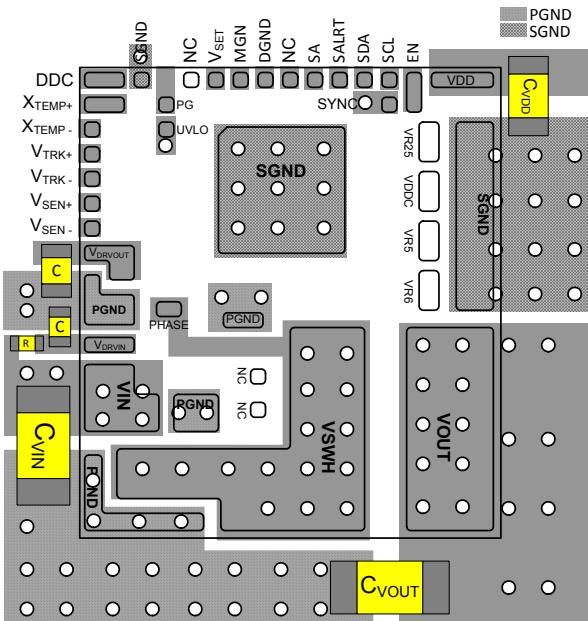

FIGURE 30. RECOMMENDED LAYOUT - TOP PCB LAYER
- For $VDD > 6V$, the recommended PCB layout is shown in Figure 30. Leave V_{25} , V_{DDC} , VR_5 , and VR_6 as no connect.